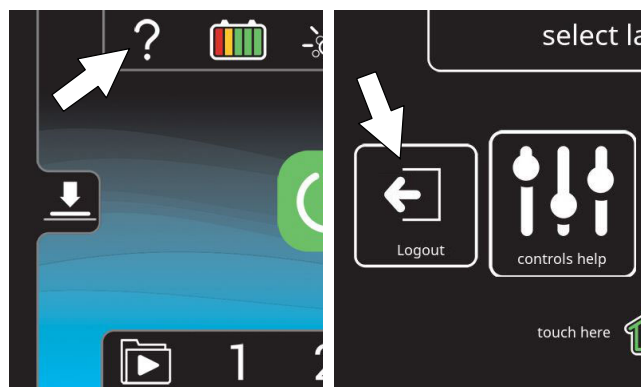

FIG. 190
7. When the user is done operating the machine, it is recommended the user log out by pressing the help button, and then pressing the logout button (Figure 190). Turning the key to the off position is another way to also logout